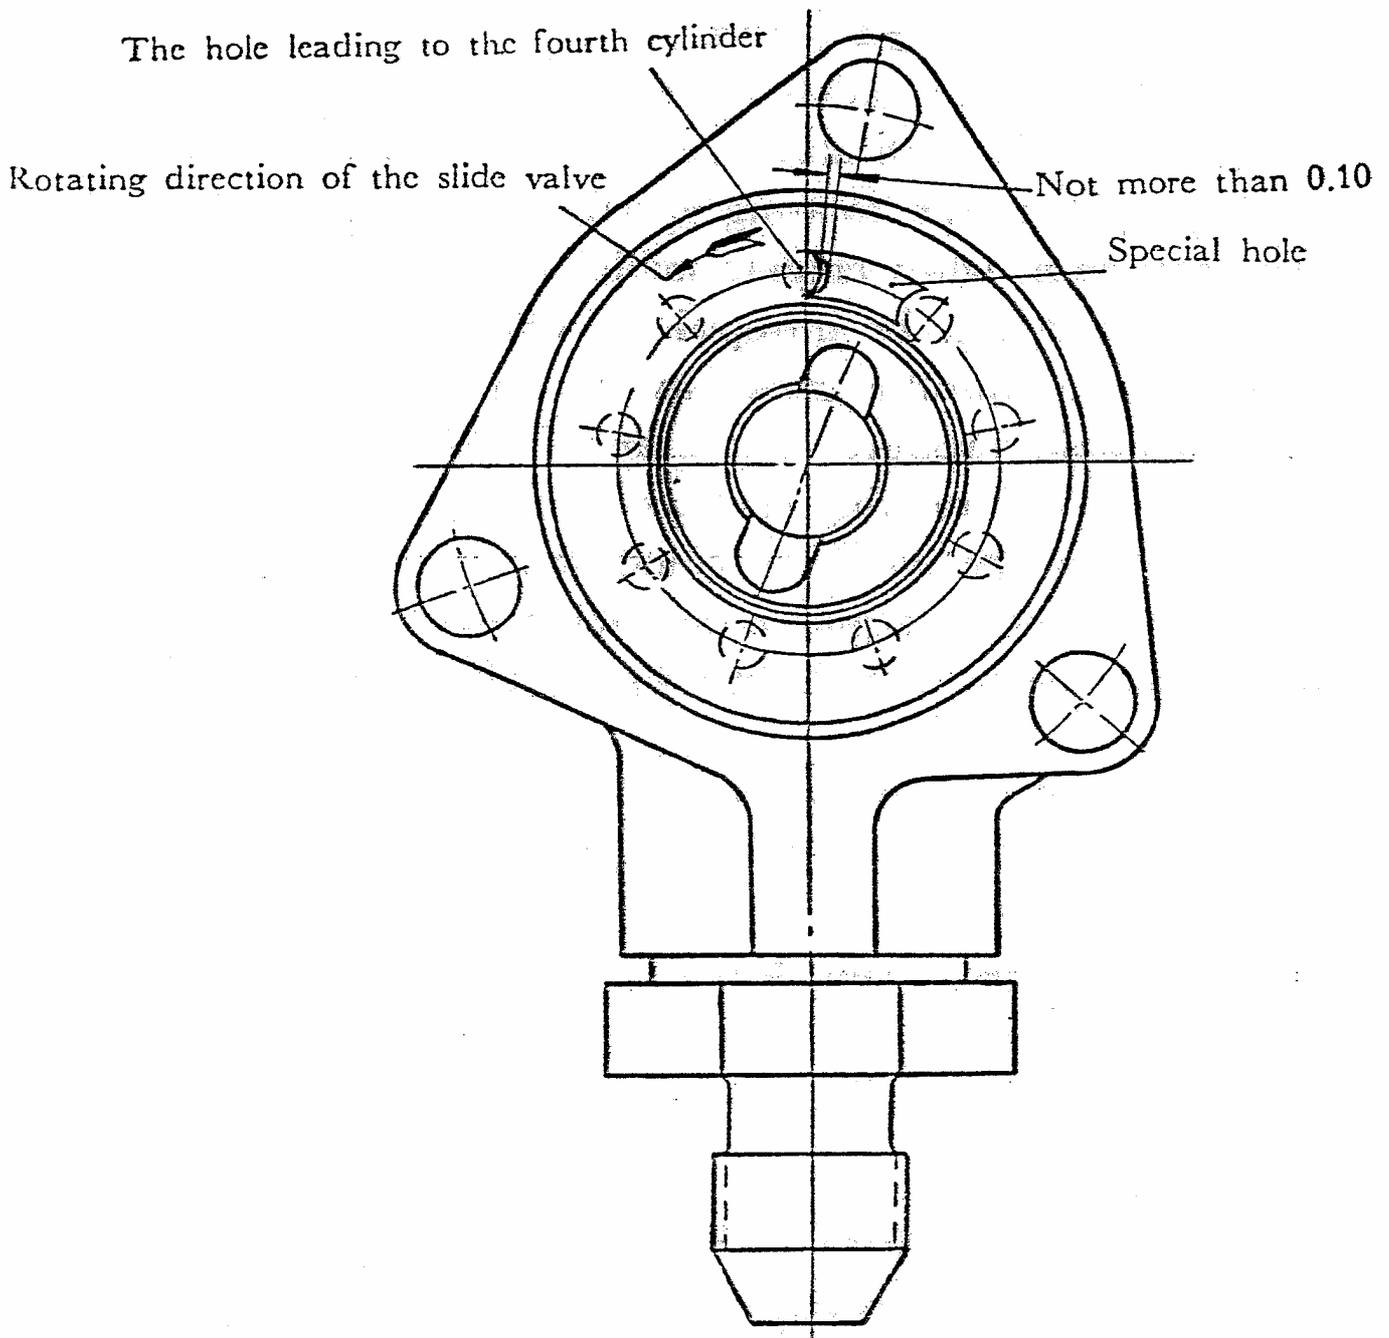

Fig. 13 Adjustment of air distributor for starting
3. Turn a slide valve according to rotating direction, when the hole leading to the fourth cylinder appears not more than 0.1 mm (Fig. 13), secure the slide valve with a fixture of air distributor for starting. Then install a gasket, hold the distributor cover assembly on the distributor housing, and then take off the fixture. If couldn't install it, should regulate the position about coupling sleeve.